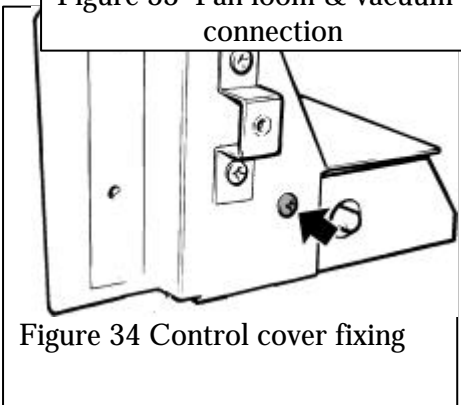

Figure 34 Control cover fixing
**13.9.5** Detach the control unit cover by removing one screw (see figure 34).